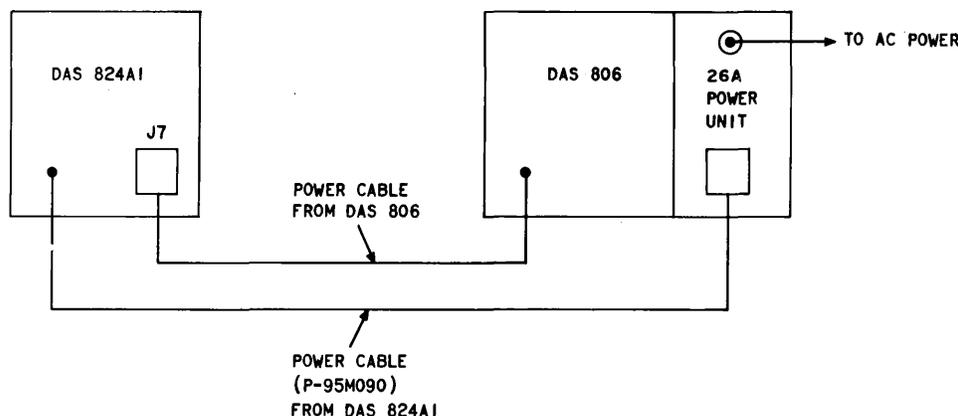

Fig. 15—Power Cable Connection Between Data Auxiliary Set 824A1 and Data Auxiliary Set 806B7 or 806D1
2.16 Power is supplied to DAS 824A1 by the 26A power unit which is part of DAS 806B7 or 806D1. The factory-installed power cable assembly (P-95M090), which is part of DAS 824A1, provides the connection between DAS 824A1 and the dc output connector of the 26A power unit on the DAS 806B7 or 806D1. The 4-prong power receptacle (J7) located on the right rear apron of DAS 824A1 provides access for the power cable from the adjacent DAS 806B7 or 806D1 (Fig. 15).